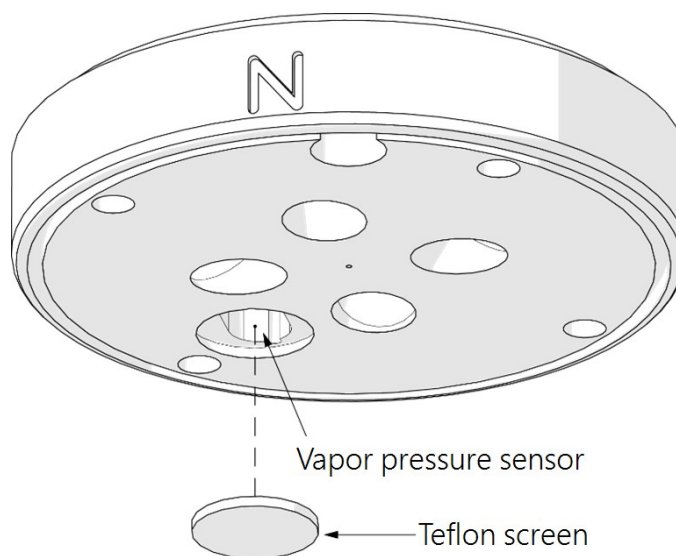

Figure 9-4. Teflon screen
4. Inspect the Teflon screen (Figure 9-4 (p. 34)) and replace if dirty.
7. Relative humidity and barometric pressure maintenance. A field-replaceable module contains the barometric pressure and relative humidity sensors. This module is under the Teflon screen (Figure 9-4 (p. 34)) and should be replaced every two years.